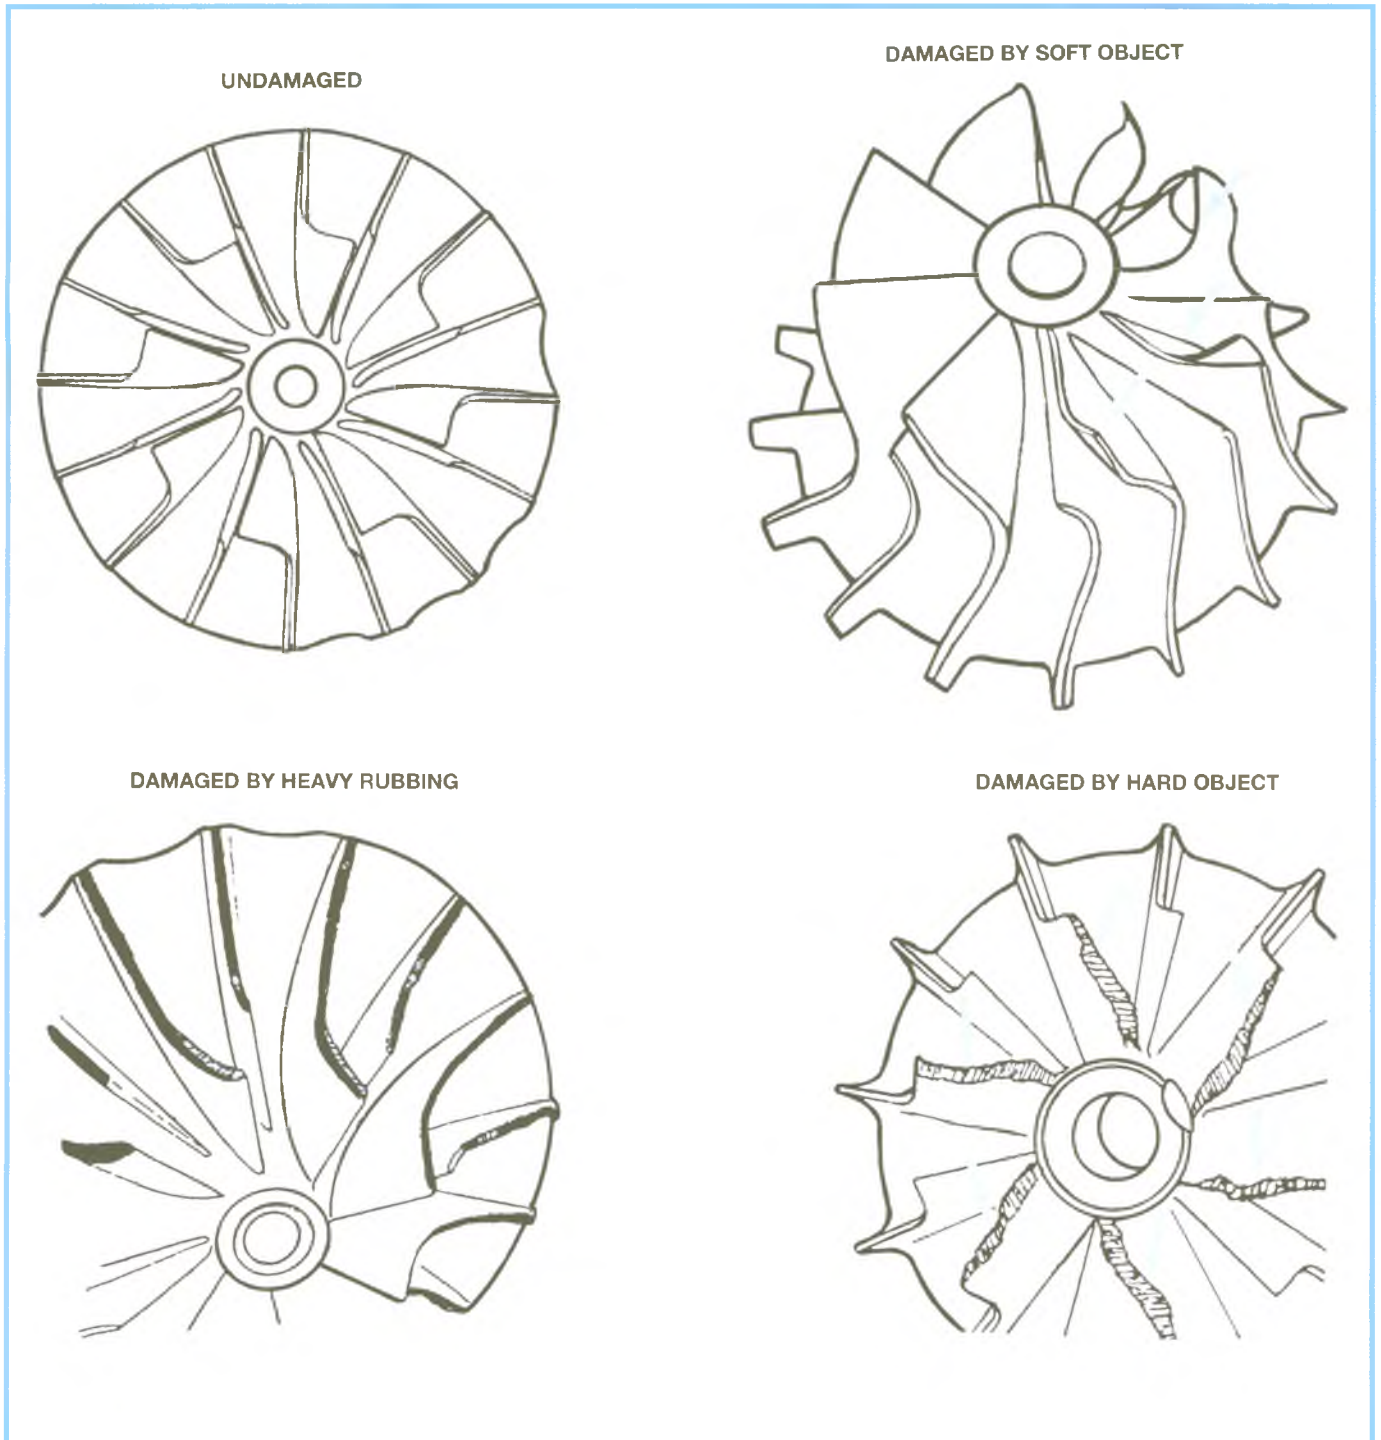

Figure 6-17, Turbocharger Compressor Wheel Inspection
- The compressor wheel blades (inspect for bends, breaks, erosion, cracks or dirt accumulation) - refer to Figure 6-17